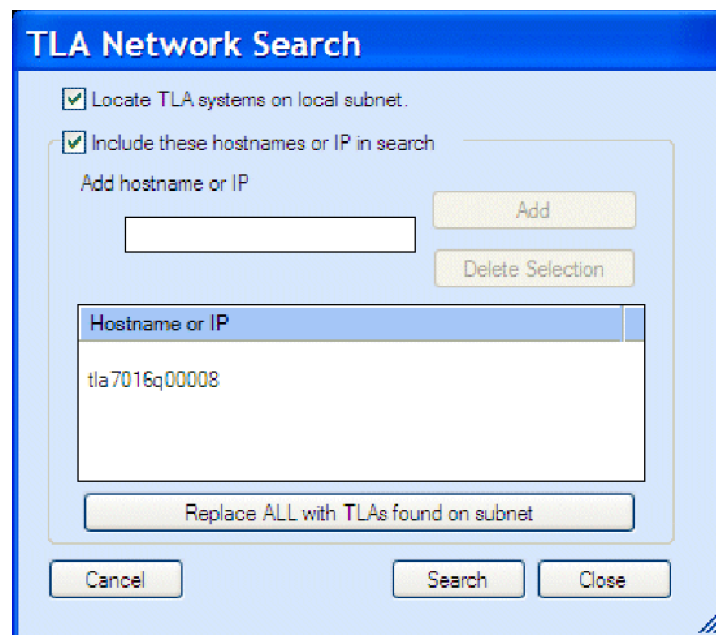

Figure 11: TLA Network Search dialog box
- a. Click  (Search icon) to open the TLA Network Search dialog box. (See Figure 11.)